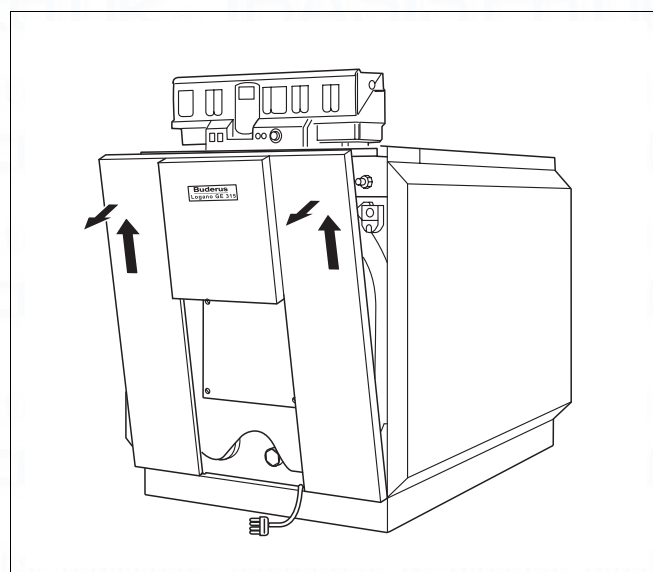

Fig. 50 Removing the front panel
- ▶ Slightly lift the front panel and remove by pulling forwards (Fig. 50).